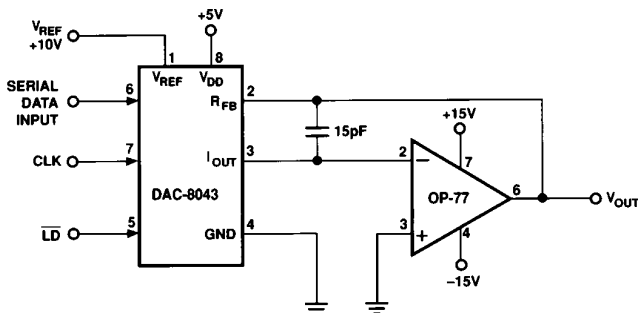

Figure 5. Unipolar Operation with High Accuracy Op Amp (2-Quadrant)
1. Phase compensation (see Figures 5 and 6).
In most applications, linearity depends upon the potential of  $I_{OUT}$  and GND (pins 3 and 4) being exactly equal to each other. In most applications, the DAC is connected to an external op amp with its noninverting input tied to ground (see Figures 5 and 6). The amplifier selected should have a low input bias current and low drift over temperature. The amplifier's input offset voltage should be nulled to less than  $+200 \mu\text{V}$  (less than 10% of 1 LSB).
The circuit shown in Figures 5 and 6 may be used with an ac or dc reference voltage. The circuit's output will range between 0 V and approximately  $-V_{REF}$  (4095/4096) depending upon the digital input code. The relationship between the digital input and
1Nominal full scale for the circuits of Figures 5 and 6 is given by
2Nominal LSB magnitude for the circuits of Figures 5 and 6 is given by
The transfer function for the DAC8043 connected in the multiplying mode as shown in Figures 5, 6 and 7 is: